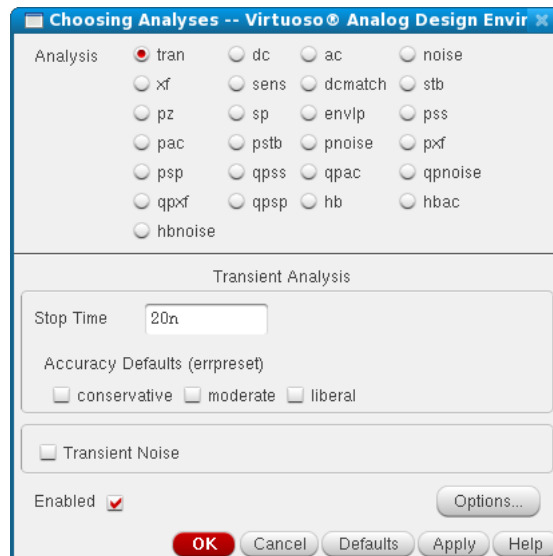

Figure 12: Transient Analysis
6. Choose a simulation type: go to **Analyses**⇒ **Choose**. For Analysis select “tran” and for stop time type 20n that is twenty nano-seconds. Refer to figure 12.